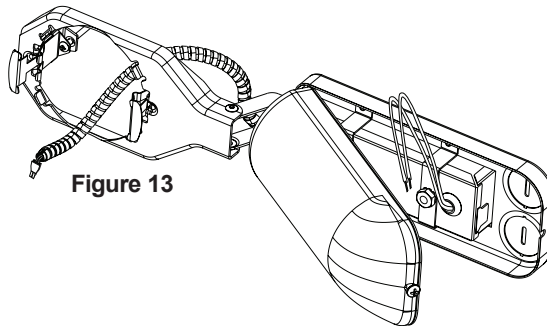

Figure 13
**Step 2.** Remove wiring compartment cover. Remove the appropriate knock-out(s) to accommodate the type of electrical supply being used (Fig. 13):
**Step 3.** Strip supply wire 3/8" and insert each supply wire into appropriate connector. Connect black fixture wire to hot, white fixture wire to neutral and green fixture wire to ground. (Fig. 13).